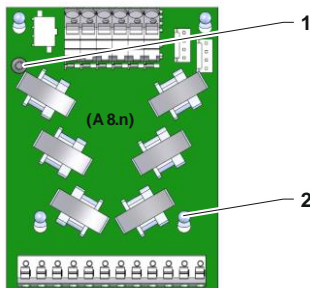

Fig. 2: Current measuring board ZSM-51
- Remove Torx screw (Label 1 → Fig. 2).
- Pull the current measuring board ZSM-51 (A 8.n) slightly upwards and move out of the printed circuit board holders (Label 2 → Fig. 2).